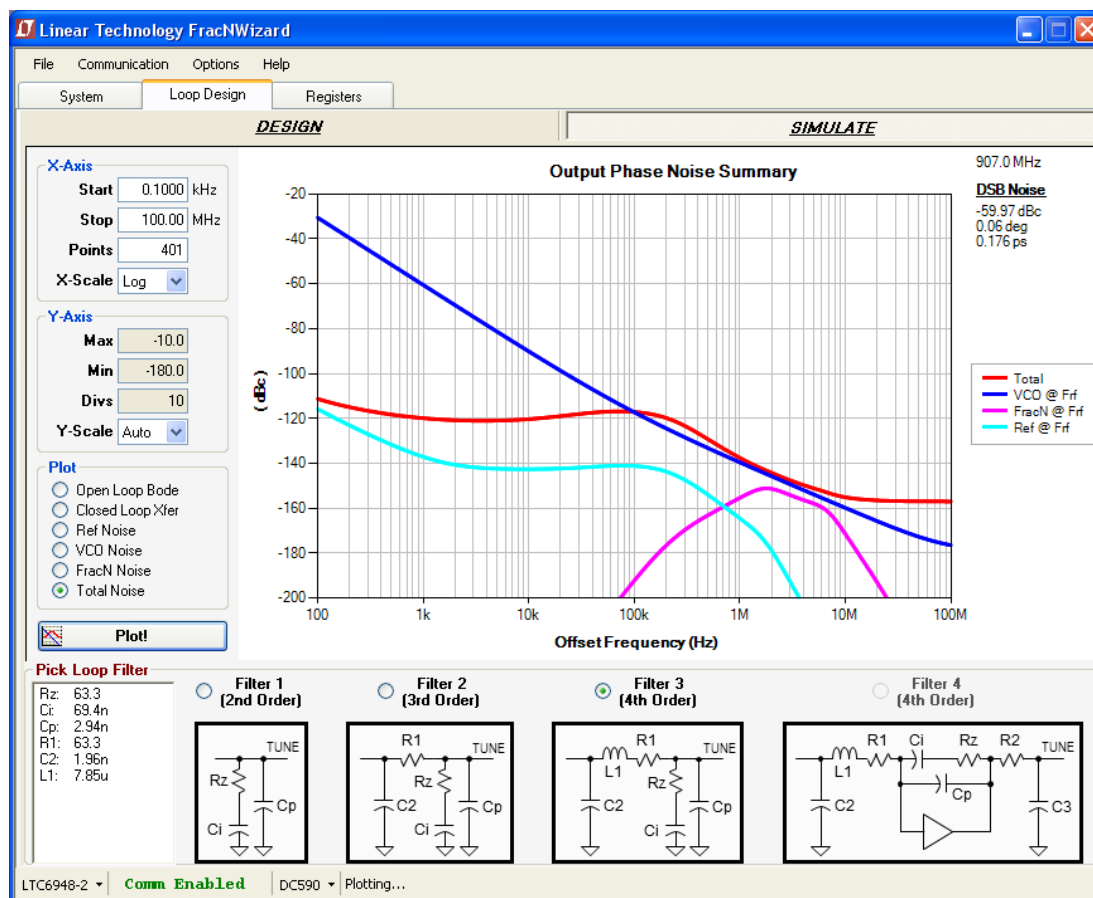

Figure 3. FracNWizard Screenshot
1. Verify that you are able to communicate with the DC1959B. The bottom status line in FracNWizard should read LTC6948 and Comm Enabled as shown in Figure 3. Refer to FracNWizard's Troubleshoot and Help if not.